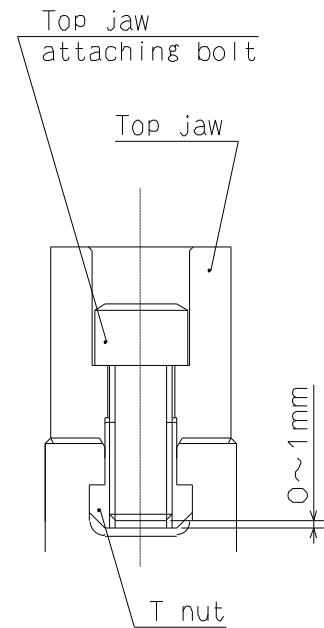

Fig.10
- If the screw-in depth of the jaw attaching bolt to the T nut is shallow, the T nut will break, and this is dangerous as the jaw and work will fly out. If the attaching bolt is too long and comes out from the bottom of the T nut as well, this is dangerous as the jaw and work will fly out since the top jaw is not fixed. Therefore, the overall length of the jaw attaching bolt must be approximately 0 to -1mm from the bottom of the T nut (Refer to Fig.10).